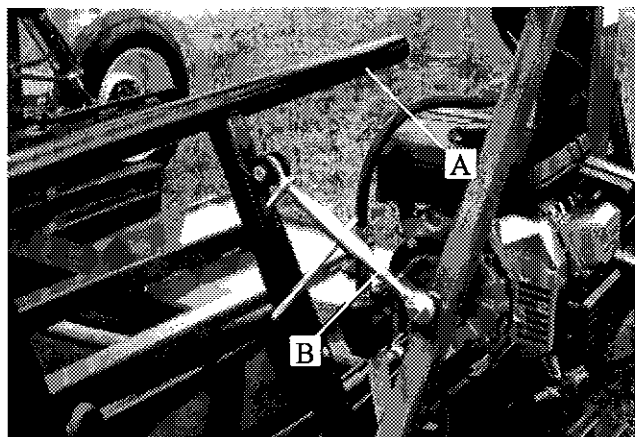

Figure 18
- 3) Adjust guides (A Fig.18) according to the width of the bales. Use turnbuckles provided (B Fig.18).